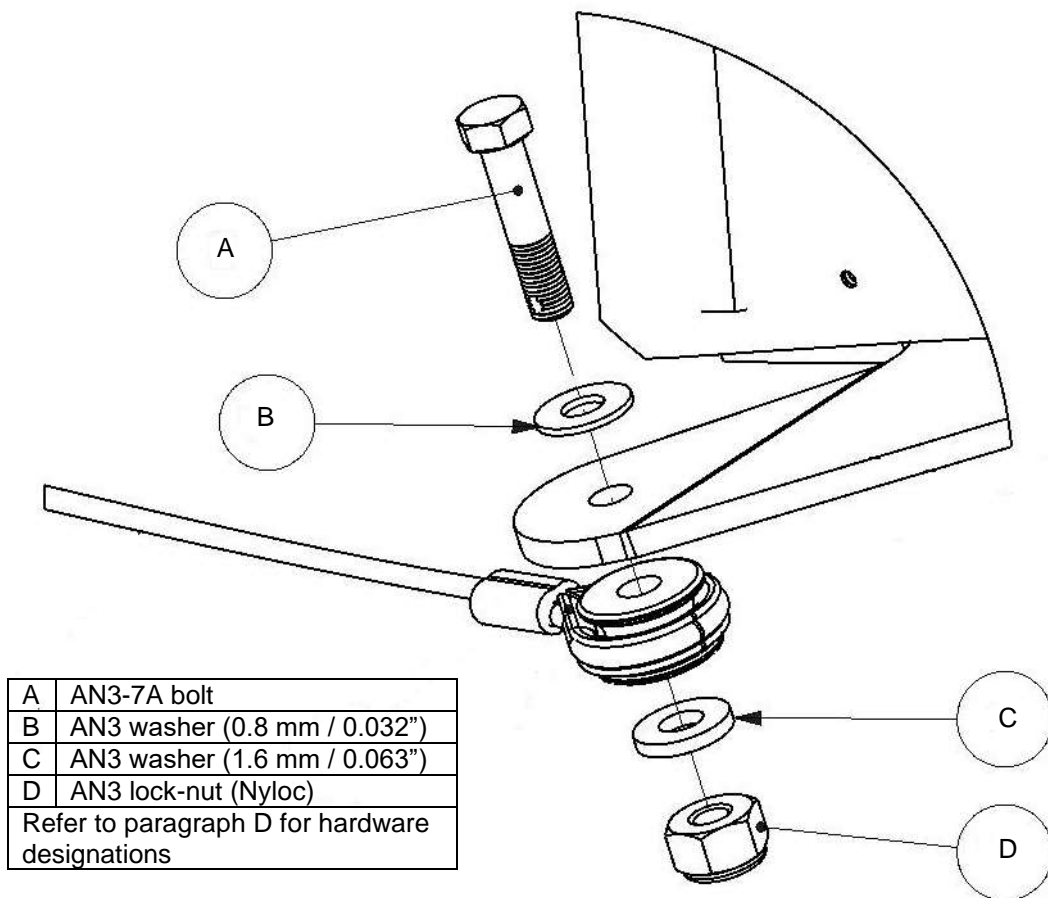

Figure 36: Rudder cable connection.
- Tighten the lock-nuts on the bolts attaching the rudder cables sufficiently, observe the correct placement of washers (refer to Figure 36) and note that the bolts are installed with their heads facing upwards.